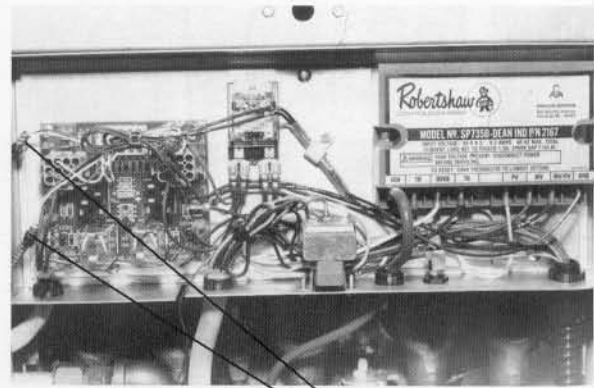

Figure 8
- Remove end of shielded probe cable from control box (Fig. 8).